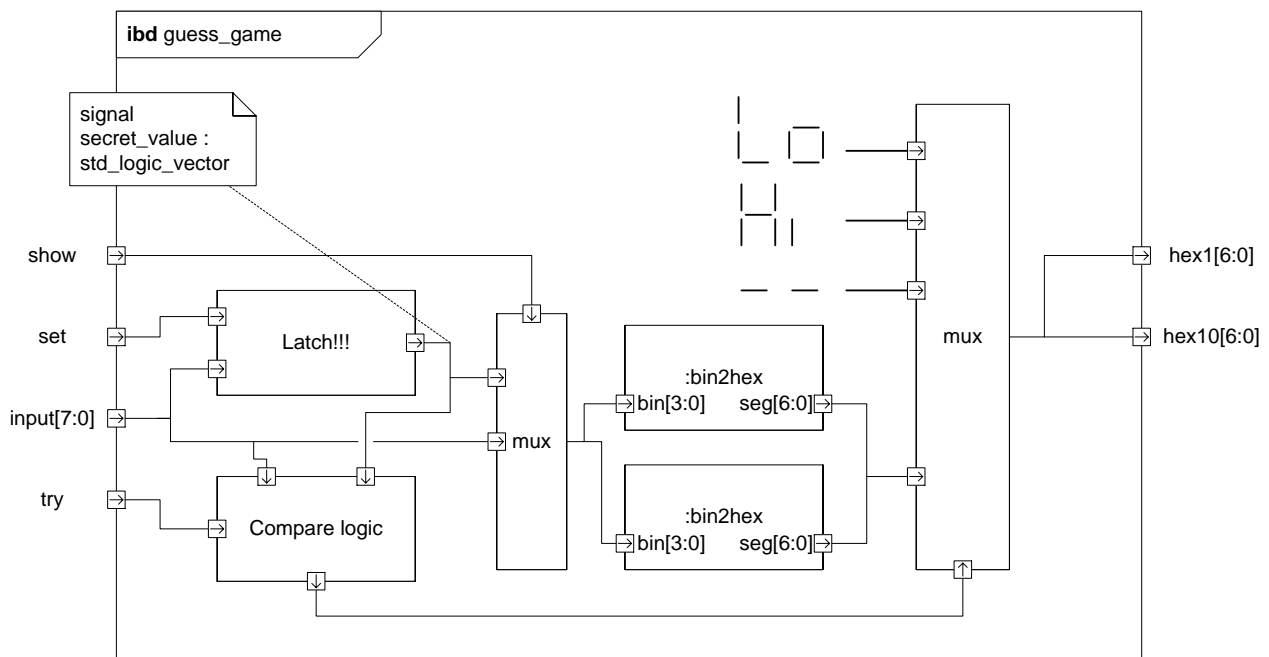

FIGURE 3 GUESS GAME IBD
- 1) Create a binary-to-7-segment converter component with the interface depicted in figure 3. The component must be implemented using a case statement and include hexadecimal numbers 0..F. See the “DE-2 User Manual” for details about the seven-segment displays (named HEX displays in the text). Also note that the segments are active-low.